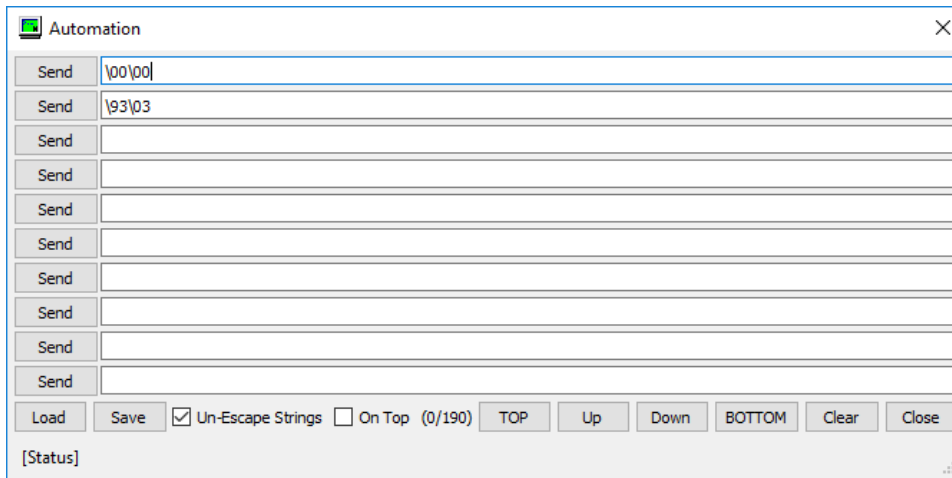

Figure 11: Automation dialogue for entering DTM commands
4. In the following screen, modify the fields as shown in Figure 11.